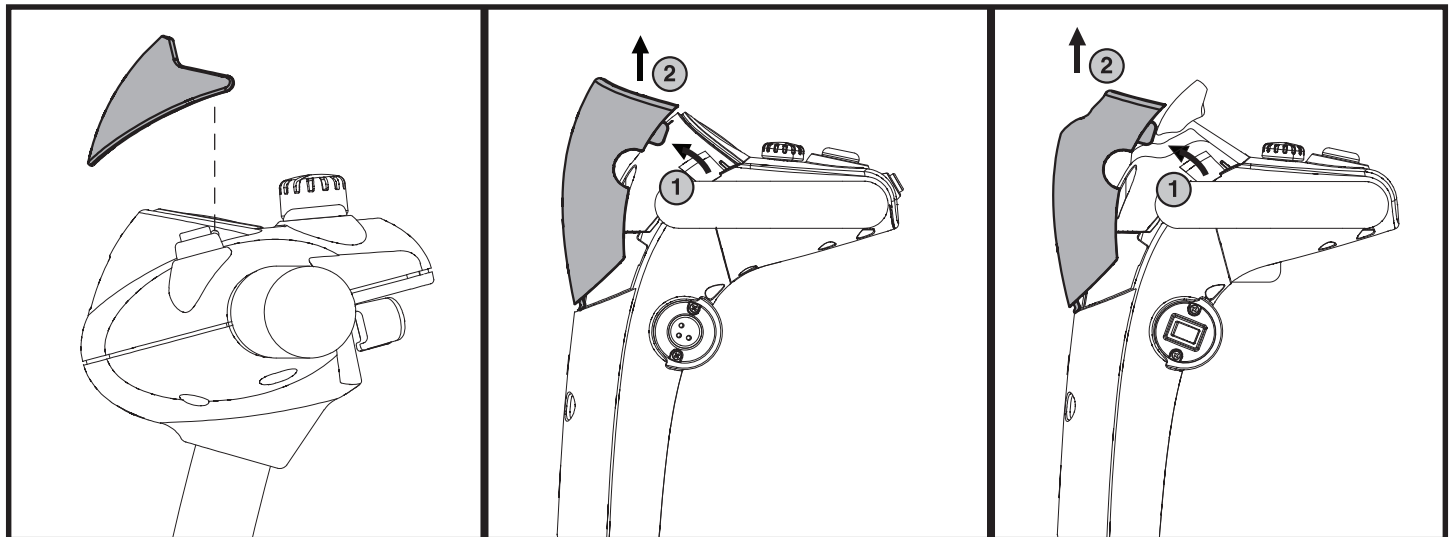

Figure 9. Tiller Console Visor
1. Gently pull the top of the visor away from the tiller console, then slowly lift it up and away from the tiller console. See figure 9.